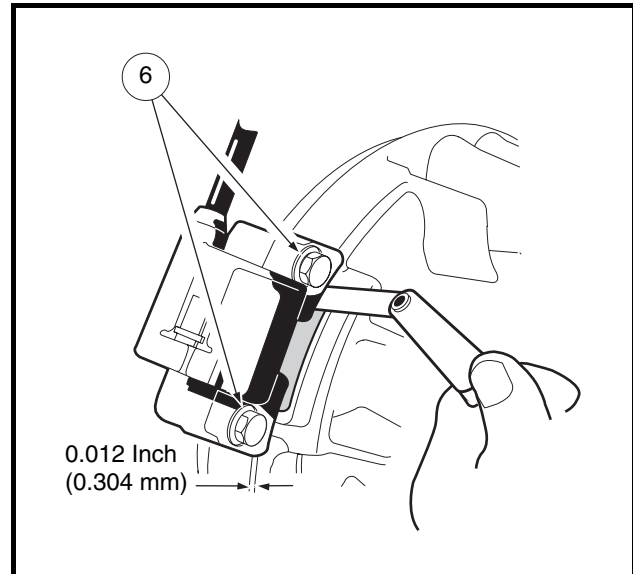

Figure 12-30 Set Air Gap
4. Remove the grommet (4) from the old spark plug wire. Clean the grommet and place it on the new spark plug wire (5).
8. Install the gasket (1) on the cap (2).
9. Position the ignition coil (7) onto the cast mounting bosses on the engine crankcase and tighten the two mounting bolts (6) to finger tight at this time.
10. Rotate the flywheel (8) until the magnet is positioned directly under the ignition coil. Use a 0.012-inch (0.304 mm) bronze feeler gauge to set the air gap between the ignition coil and the flywheel magnet. Tighten the two mounting bolts (6) to 30 in-lb (3.4 N·m) (**Figure 12-30, Page 12-27**).